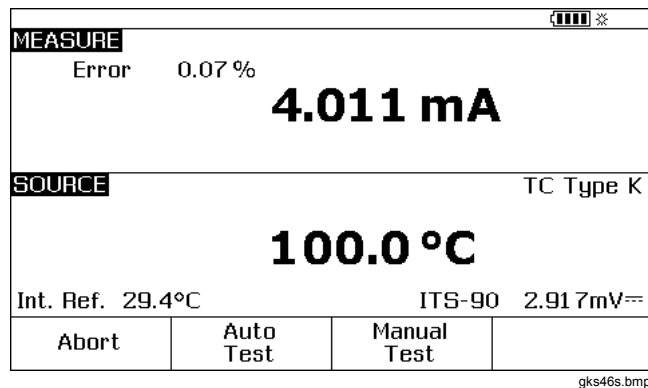

Figure 32. Measure and Source Screen for Calibration
17. Push the **Done** softkey to accept the calibration parameters. The display changes to the screen shown in Figure 32.